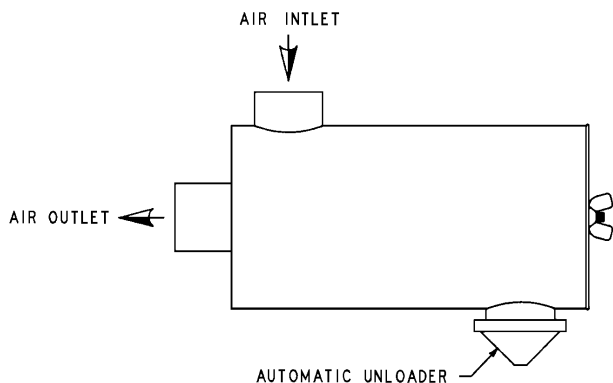

FIGURE 6-1 – HEAVY DUTY AIR FILTER (STANDARD)
**HEAVY-DUTY AIR FILTER** (FIGURE 6-1) furnished as standard equipment on units with an enclosure is a heavy-duty washable element dry type air filter. The air filter must receive proper maintenance if maximum service is to be obtained from the unit. Establishing adequate and timely filter service is MOST IMPORTANT. An improperly maintained air filter can cause a loss of compressor air delivery.